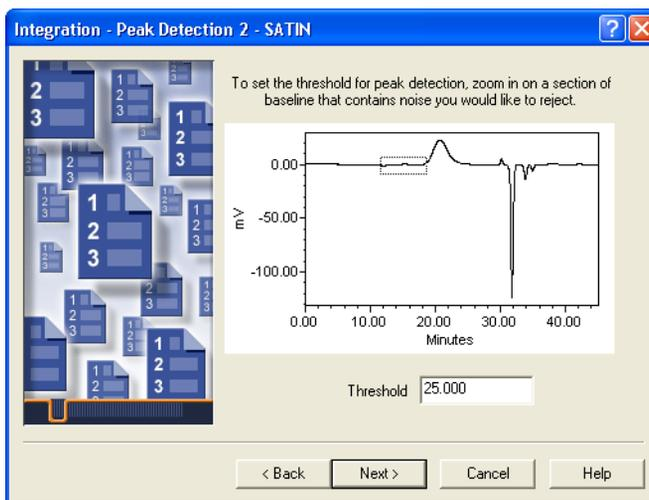

Figure 3-7 Setting Peak Threshold
4. When you are satisfied with the integration region, click **Next** to go to the Integration–Peak Detection 2 page (Figure 3-7). This page allows you to set the threshold for peak detection.